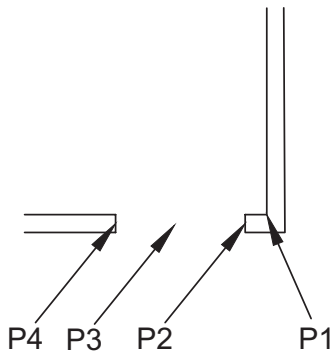

Figure 3-5
Step 8. Use **ID Point** to locate a point on the drawing. Use **LINE** to draw the right side of the door opening (Figure 3-5), as described next:
P1→ (with **SNAP** on, snap to the inside lower-right corner of the conference room, Figure 3-5)
P2→ (the 5" line you just drew; Figure 3-5)
Step 10. Use the **TRIM** command to trim the horizontal wall lines between the two 5" vertical lines that represent the door opening (Figure 3-5), as described next:
P2→** (the 5" vertical line; Figure 3-5)
between **P2→** and **P4→** (Figure 3-5)